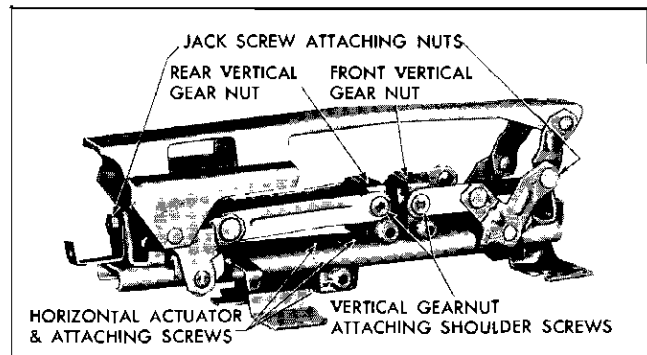

Fig. 5-3 Six-Way Seat Adjusters
3. Using clutch-type screwdriver or other suitable tool, remove shoulder screws securing linkages to vertical gear nuts. (Fig. 5-3)
7. To install, reverse removal procedure making sure jackscrew is installed with unthreaded shoulder at rear of adjuster and gear nuts installed as shown in Fig. 5-3. Rear vertical gear nut, which has the larger diameter cable attachment, should be installed to the rear; front vertical gear nut, which has the smaller diameter cable attachment, should be installed at the front. Both vertical gear nuts should have cable attachment at bottom and facing inside of adjuster. (Fig. 5-3)
2. Remove screws securing horizontal actuator (Fig. 5-3), and remove actuator from seat adjuster.